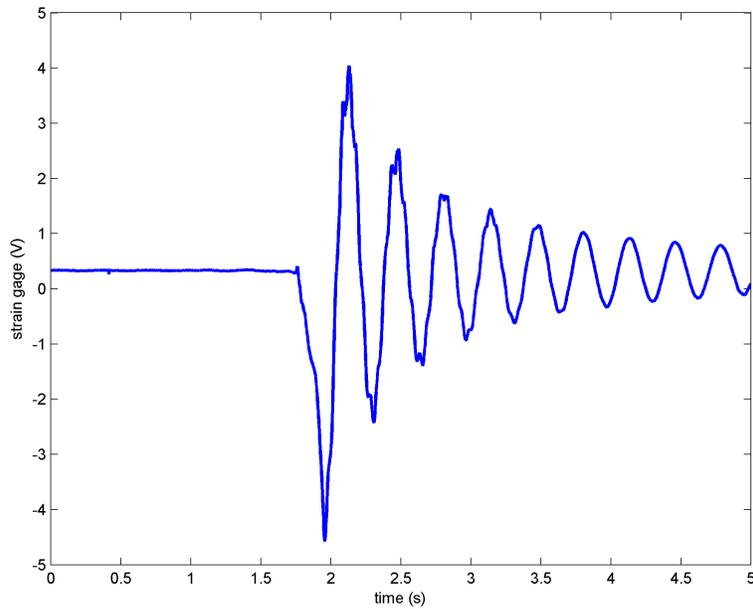

Figure 5.1: Strain Gauge Sensor Typical Response
2. A typical response of the strain gauge sensor is depicted in Figure 5.1, where the tip has been gently touched. As seen in Figure 5.1, the sensor has output a zero volt reading until the tip was touched.